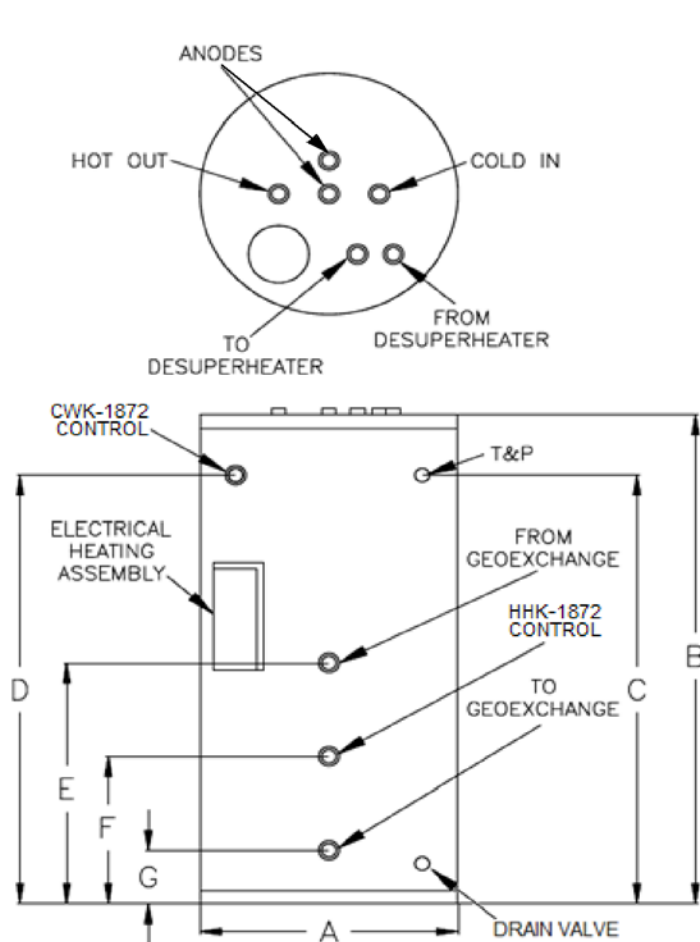

Figure 1. GSTE Storage Water Heater Description
- Figure 1. GSTE Storage Water Heater Description 5
The EarthLinked® Model GSTE Storage Water Heater description appears in Figure 1. In addition to the storage water heater, temperature control Model HHK-1872 is required for commercial water heating, domestic water heating and radiant panel hydronic heating applications; and the temperature control Model CWK-1872 is required for chilled water cooling applications.